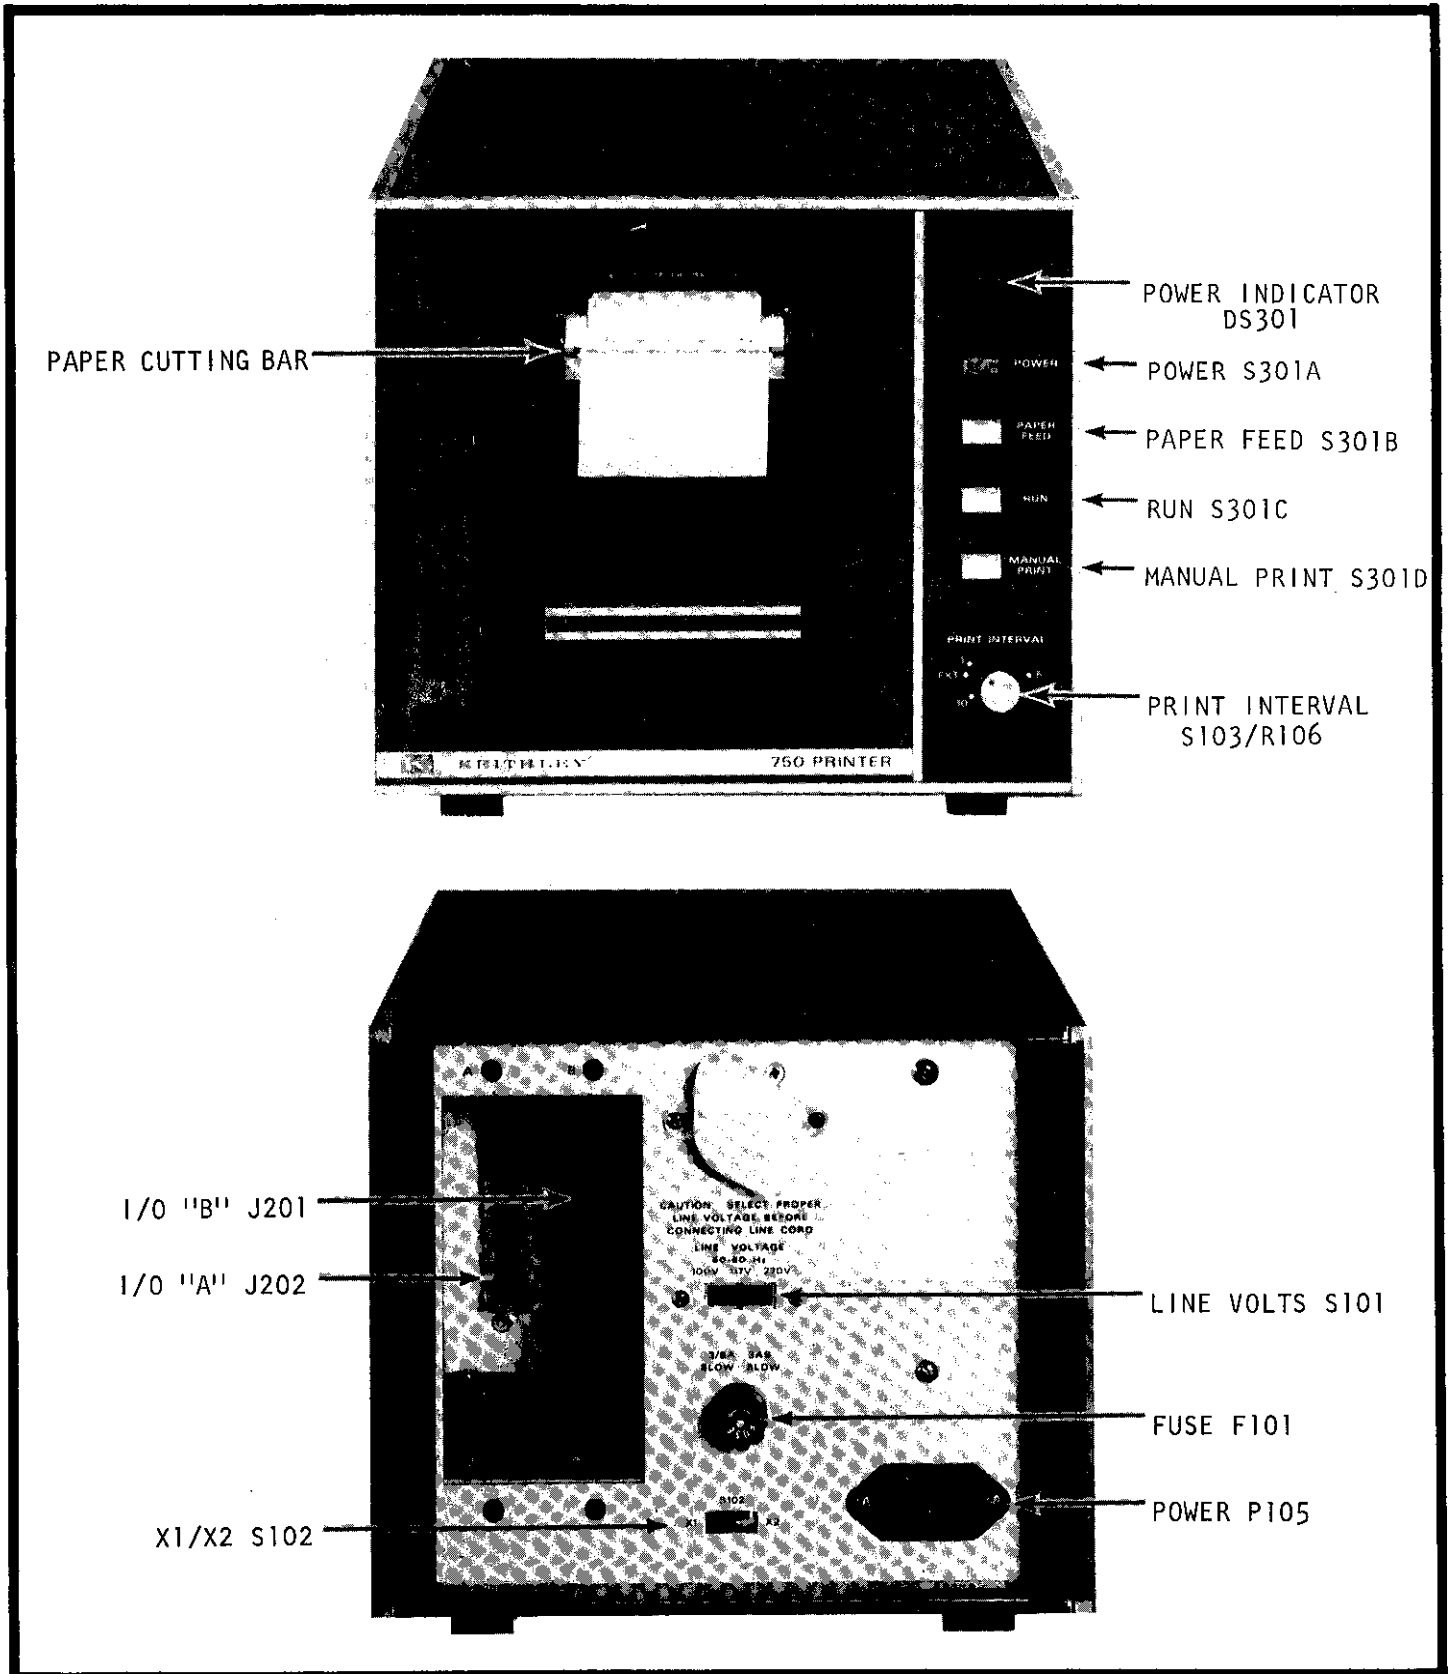

FIGURE 1. Front and Rear Views of Model 750.
b. Line Fuse Requirements. The Model 750 uses a 3AB or 3AG Slow-Blow fuse with rating shown in Table 2-1. The line fuse is located on the rear panel as shown in Figure 1.